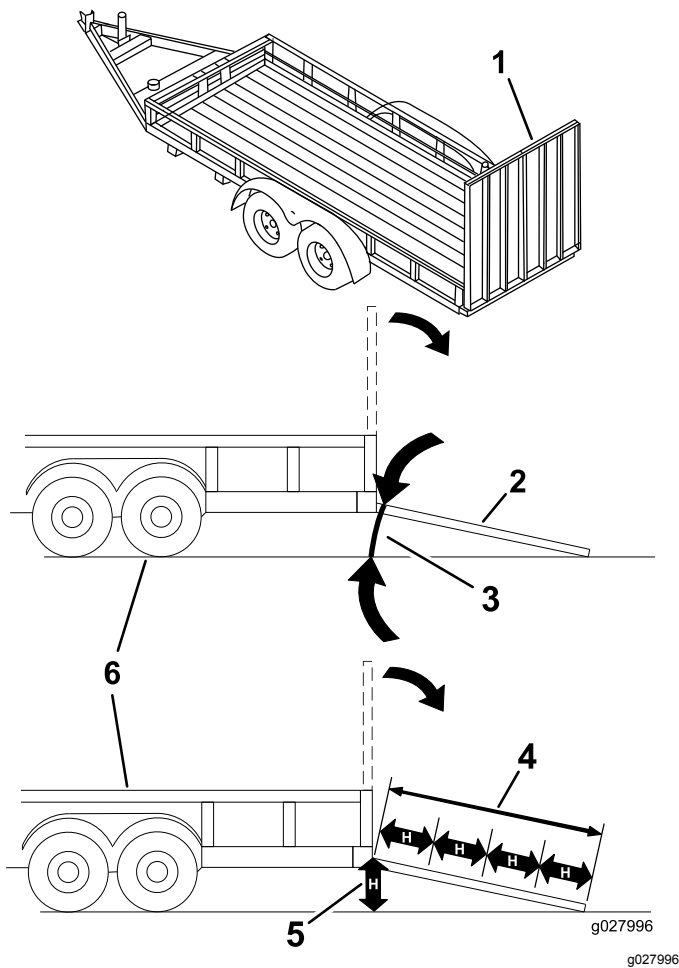

Figure 25
Loading a machine onto a trailer or truck increases the possibility of tip-over and could cause serious injury or death (Figure 25).
1. Lower the ramp, ensuring that the angle between the ramp and the ground does not exceed 15 degrees (Figure 25).